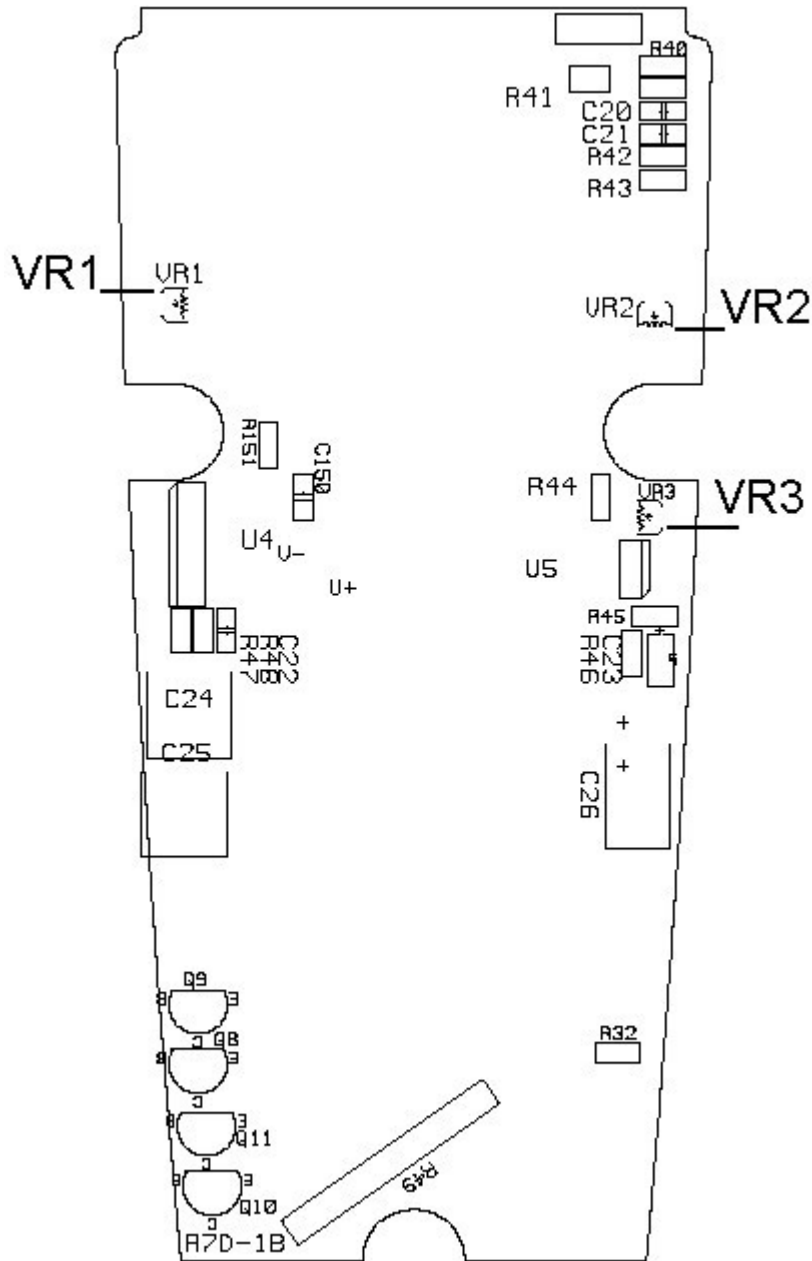

Figure 3 - Calibration Adjustment Points
(A) DCV Calibration (Adjust VR1; See Figure 3)
(B) ACV Calibration (Adjust VR2; See Figure 3)
(C) ACA Calibration (Adjust VR3; See Figure 3)